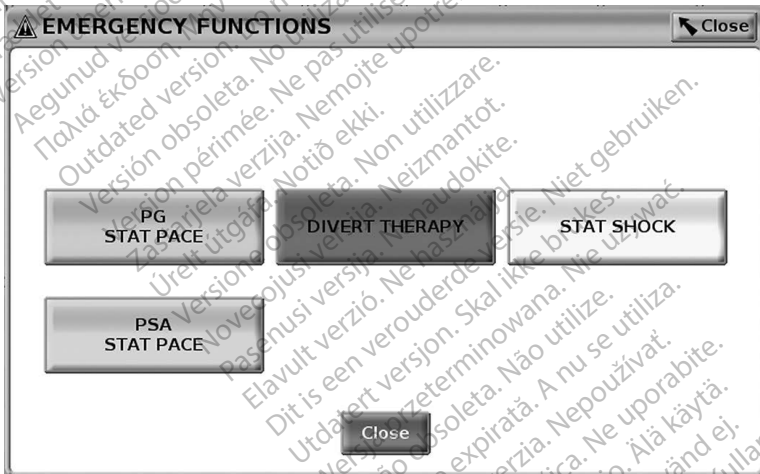
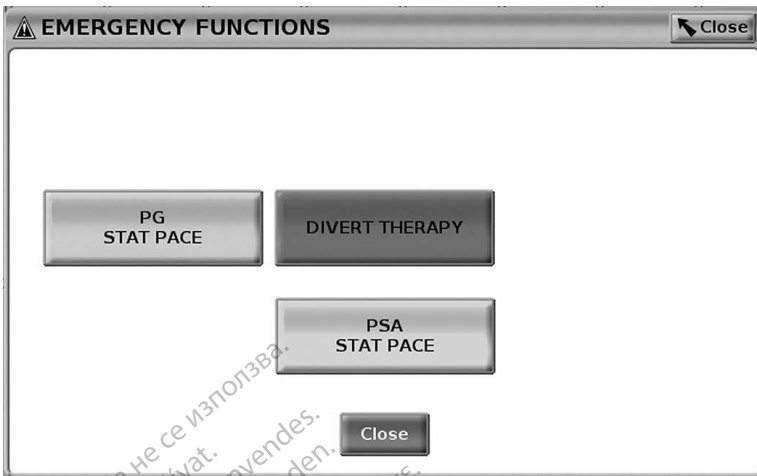

Figure 21. Red STAT button pop-up in a High Voltage transvenous PG session with the PSA application running
Figure 22. Red STAT button pop-up in a Low Voltage transvenous PG session with the PSA application running
The red STAT button, , is at the top right of the Model 3300 Programmer to provide a rescue shock or pacing. The STAT function is available in the same location at all times to initiate a PSA STAT PACE or deliver a rescue pace or shock. Pressing the STAT button displays the Emergency Function screen as shown in Figure 21 and Figure 22 on page 31 and Figure 23 on page 31. Check the pulse generator labeling for specific details of the STAT parameters.
- When in telemetry communication with a high voltage (ICD or CRT-D) PG, a pop-up displays allowing the user to initiate a PG STAT PACE, STAT SHOCK, or DIVERT THERAPY command. If a PSA session is in progress, a PSA STAT PACE option also displays as shown in Figure 21 on page 30.
In Figure 21, the top row buttons (PG STAT PACE, DIVERT THERAPY, and STAT SHOCK) display only during a High Voltage transvenous PG session. PSA STAT PACE displays when the PSA feature is active.
In Figure 22, the top row button (PG STAT PACE) displays only during a Low Voltage transvenous PG session. PSA STAT PACE displays when the PSA feature is active.